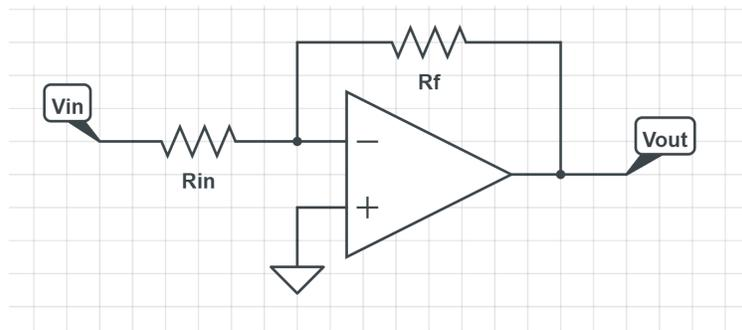

Figure 1: Inverting amplifier
- An inverting amplifier with no reference voltage (non-inverting terminal is connected to GND) is shown in Figure 1. Please upload all of your work for this problem.